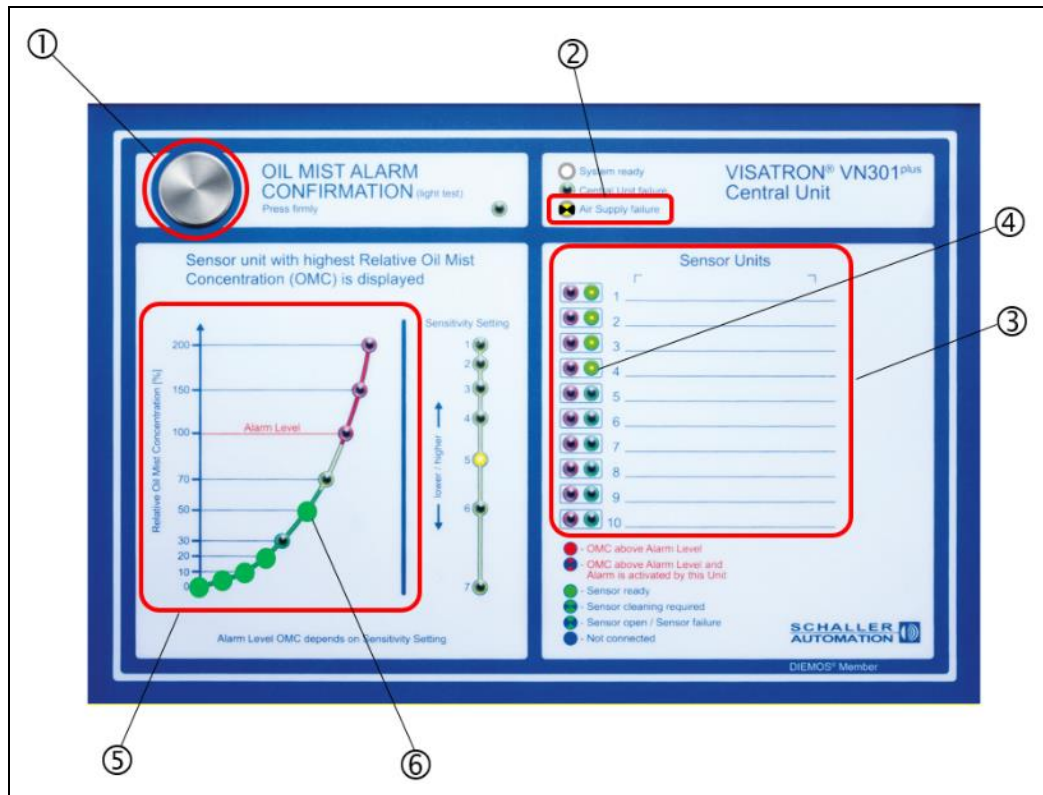

Fig.: 74 : VN301^{plus} central unit: Setting the supply pressure
3. Press the oil mist alarm confirmation button again. [①]
- The "Supply pressure" display mode is indicated by the LED for "Air Supply failure" [②] flashing.
- The current supply pressure level is now displayed on the OMC graph on the left-hand side. [⑤]
- The nominal pressure of 2.5 bar is indicated by the LED light for 50% OMC [⑥] turning on continuously.
- If the supply pressure of 2.5 bar is not achieved, the 50% OMC [⑥] LED flashes, as in the figure below. In this example, the supply pressure is only 2 bar and therefore has to be adjusted.
4. Set the supply pressure to 2.5 bar using the pressure regulator unit [①], as shown in Figure 74:
- Unlock the blue adjusting cap [②] on the pressure regulator, i.e. push it upwards.
- Turning the blue adjusting cap [②] anticlockwise reduces the pressure, turning it clockwise increases the pressure.
- Push the blue adjusting cap [②] on the pressure regulator down again to lock it.